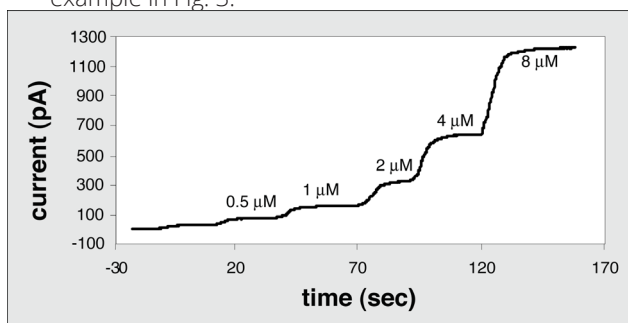

Fig. 3—Calibration Curve
2. Consecutively add known volumes of the H_2O_2 standard solution to the PBS buffer solution. For example, add 0, 5, 10, 20, 40 and 80 μL H_2O_2 standard solution (1.0 mM) into the 10 mL PBS buffer solution. The additions can be added once every 20-30 seconds. The resulting output should look similar to the example in Fig. 3.